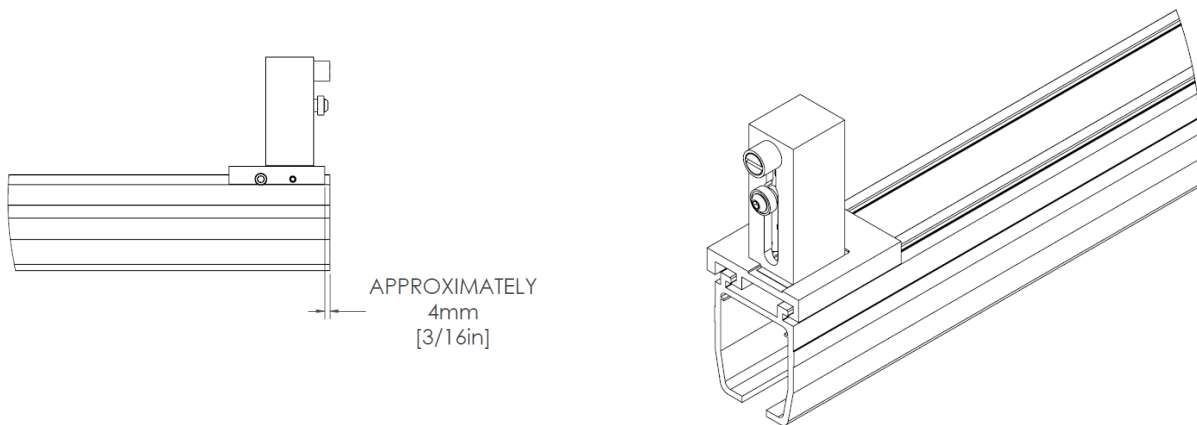

Figure 92: **Fixed Track TGB Mounted to the Fixed Gate Track**
b. Mount the fixed track TGB to the fixed gate track (see Figure 92).